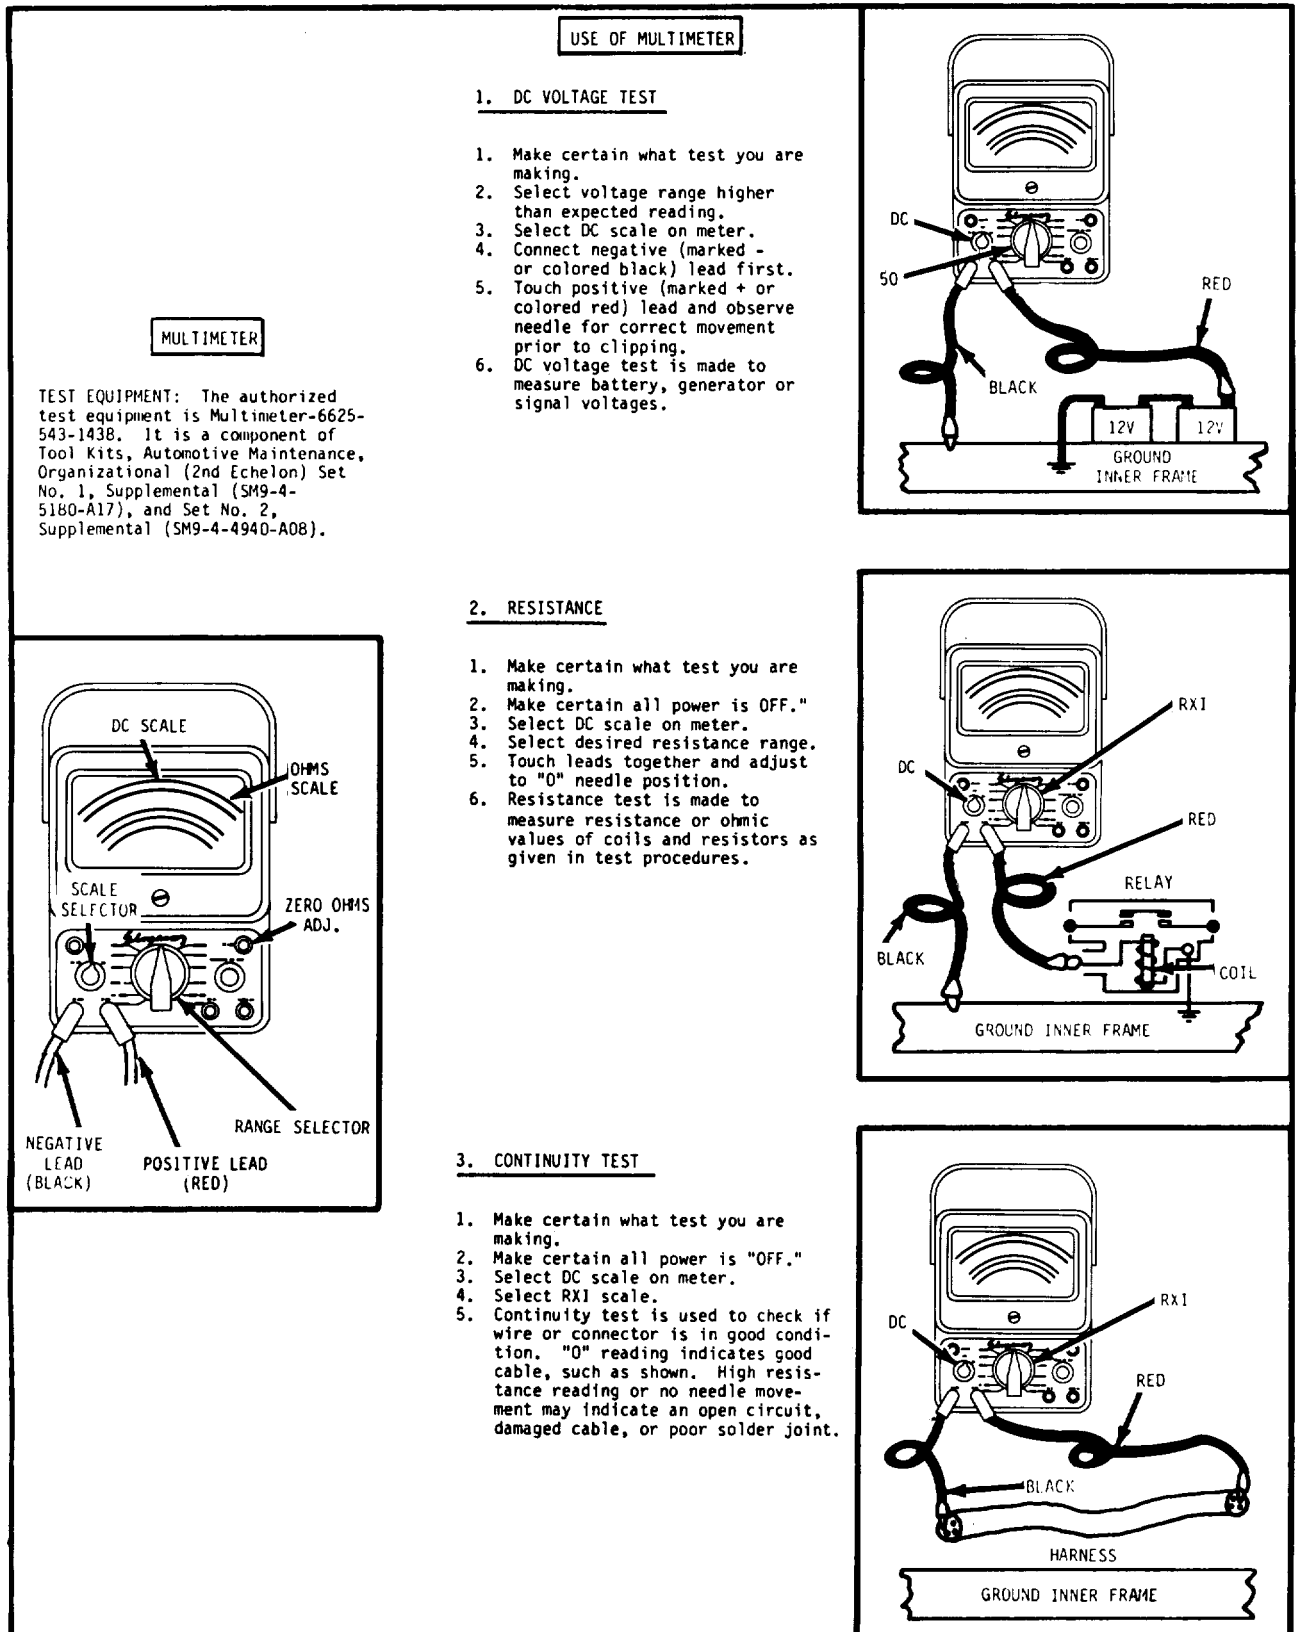

Figure 4-1. Electrical test equipment.
(1) Isolate the wiring harness in which the malfunction occurs.
(2) Isolate the circuit within the wiring harness that is not operating.
(3) Isolate the individual component within the circuit that is causing the malfunction.
b. Test Equipment. See Figure 4-1 for methods of electrical tests and equipment.